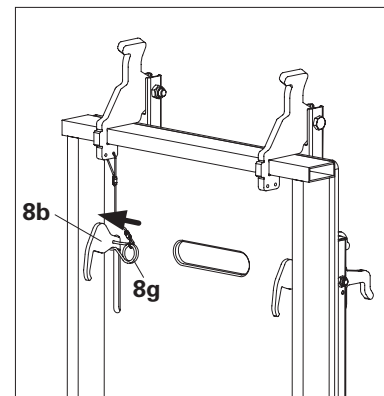

Fig. A3.01a – Deck panel folded up
- Detach hooks of the red side. (Fig. A3.01a)